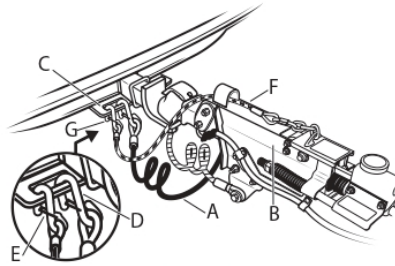

Figure 10
The right cable (A) crosses underneath the trailer tongue (B) and hooks to the left side of the tow vehicle permanent hitch (C), "D"-rings, frame or structure, or to the tow vehicle bumper brackets. (Figure 10) Do not attach cables to the ball or to a ball mount that is removable. The left cable hooks to the right side in the same manner. Crossing the cables under the tongue allows the minimum amount of slack for turning. The "S"-hooks (D) on safety CABLES should be hooked to attachment holes on the hitch, if present. For safety CHAINS the "S"-hooks can be hooked to the attachment holes or passed through these holes and hooked back to a link in the chain. Control safety CHAIN slack by hooking the chain back to itself or by twisting the links to shorten chain. Be sure the "S"-hooks have a functional spring clip retainer (E), or are secured with a rubber retainer. *The cables need slack to allow your vehicle to make turns. Make sure these cables attach securely to your tow vehicle and do not drag on the roadway.*
Trailers with brakes have a third cable, called the emergency brake cable (F). (Figures 10 & 11) This cable applies the brakes automatically in the unlikely event of a separation of the trailer from the tow vehicle. Attach this cable as close to the vehicle center as possible; to the tow vehicle permanent hitch, (C) "D"-rings, frame or structure, or to the bumper brackets. The "S"-hook (G) on this cable should be hooked to an attachment hole on the hitch, if present. Be sure the "S"-hook has a functional spring clip retainer, or is secured with a rubber retainer. *Some slack is necessary to prevent the emergency brake from activating on turns or inclined driveways.*